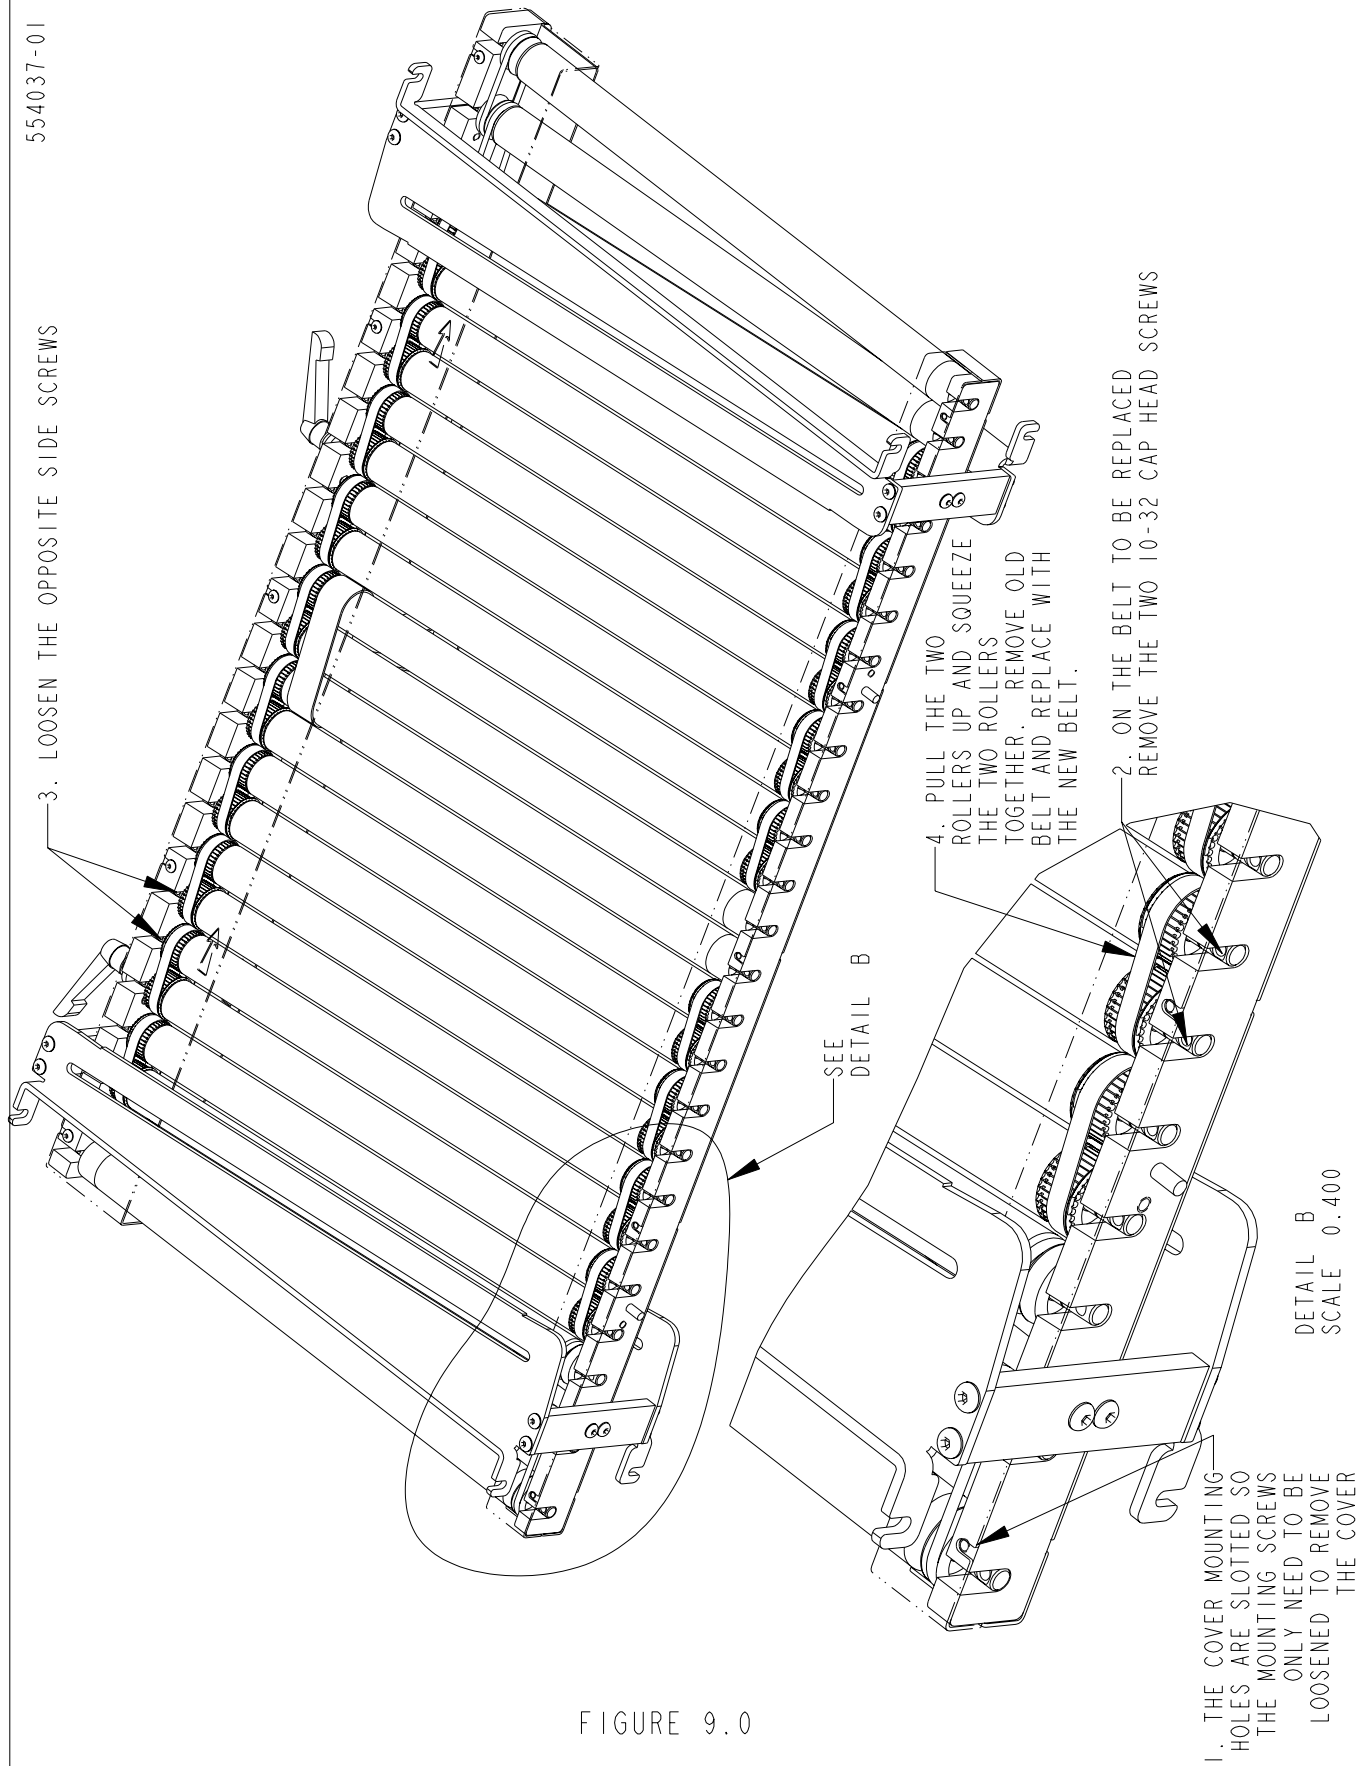

FIGURE 9.0
7.3 ROLLER DRIVE BELT REPLACEMENT (see Figure 9.0)